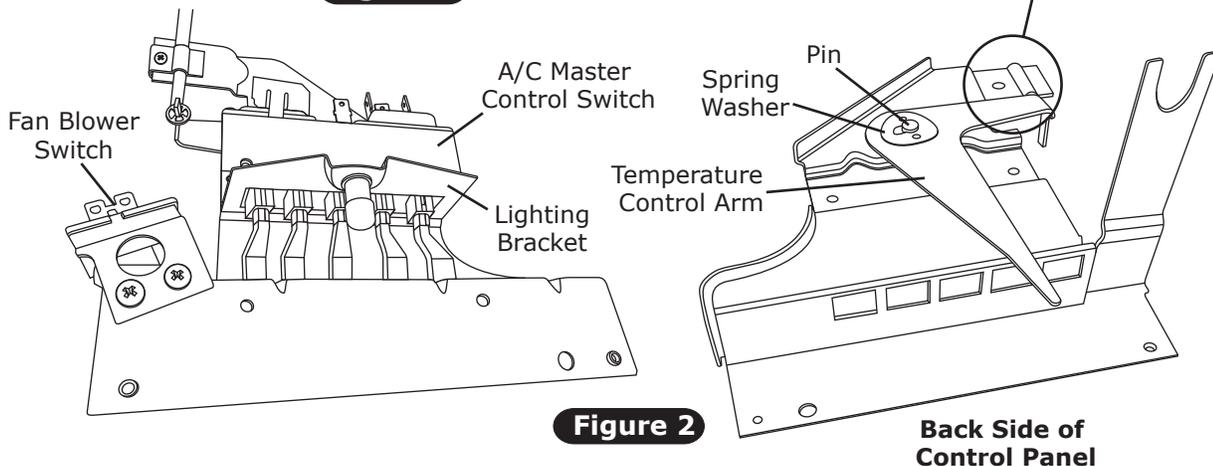

Figure 2
4. Remove radio, knobs and (2) mounting nuts (retain).
6. Remove (7) Phillips screws from upper and lower lips of cluster bezel (retain).
7. From under instrument panel, disconnect speedometer cable. Remove wiring harness from (2) retainer clips at steering column bracket.
11. Remove control panel from dash by removing the (2) OEM screws, and loosen temperature cable from rear of control bracket.
12. On a workbench, remove the A/C master control switch from the control bracket (discard (2) Phillips screws). Remove and discard the fan blower switch (See Figure 2, below).